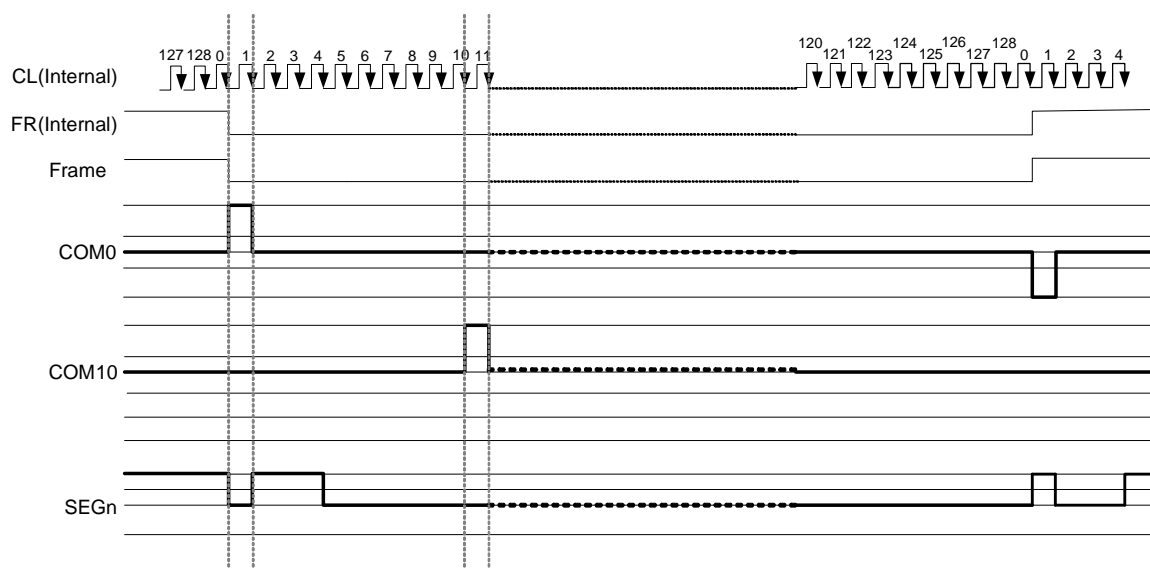

Fig. 13 Frame AC Driving Waveform (Duty Ratio: 1/129)
This circuit generates some signals to be used for displaying LCD. The display clock, CL (internal), generated by oscillation clock, generates the clock for the line counter and the signal for the display data latch. The line address of on-chip RAM is generated in synchronization with the display clock and the display data latch circuit latches the 128-bit display data in synchronization with the display clock. The display data, which is read to the LCD driver, is completely independent of the access to the display data RAM from the microprocessor. The display clock generates an LCD AC signal (FR) which enables the LCD driver to make an AC drive waveform, and also generates an internal common timing signal and start signal to the common driver. The frame signal or the line signal changes the M by setting internal instruction. Driving waveform and internal timing signal are shown in Fig. 13.